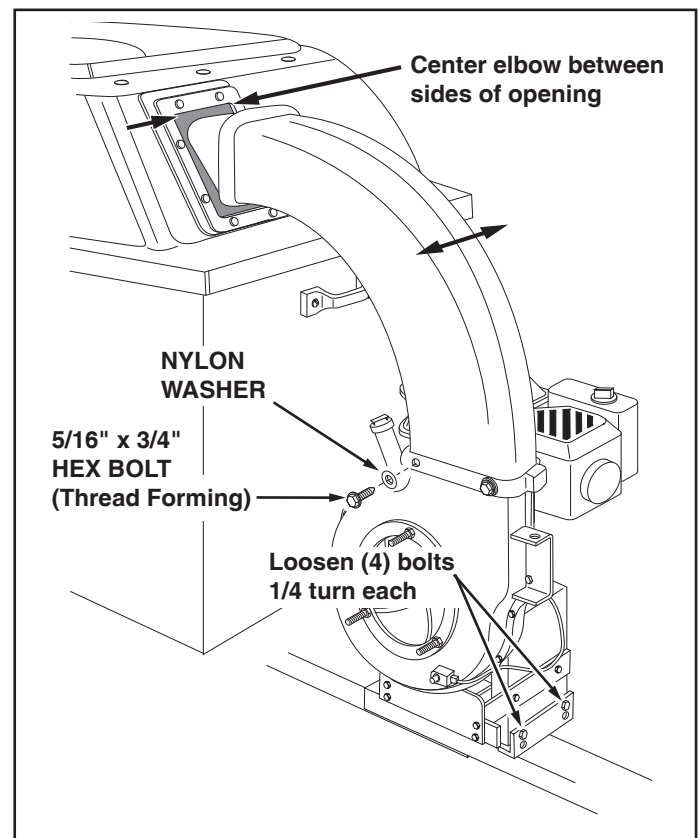

FIGURE 17
29. Assemble the elbow to the impeller housing using four 5/16" x 3/4" self tapping hex bolts and four nylon washers. Push while turning to help start the bolts into the unthreaded holes. **Tighten**. See figure 17.